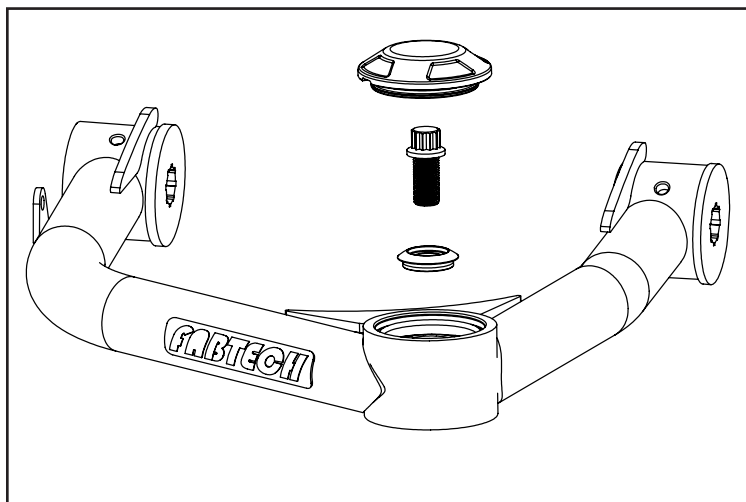

FIGURE 6 - STEP 10
10. Attach the new upper control arm to the knuckle by inserting the FT90152 (Upper misalignment) into the uniball bearing then the 1/2-20 - 12 point bolt. Torque to 106 ft-lbs. Install FT90154 (Bearing cap). Torque the control arm pivot bolt to 148 ft-lbs **SEE FIGURE 6**